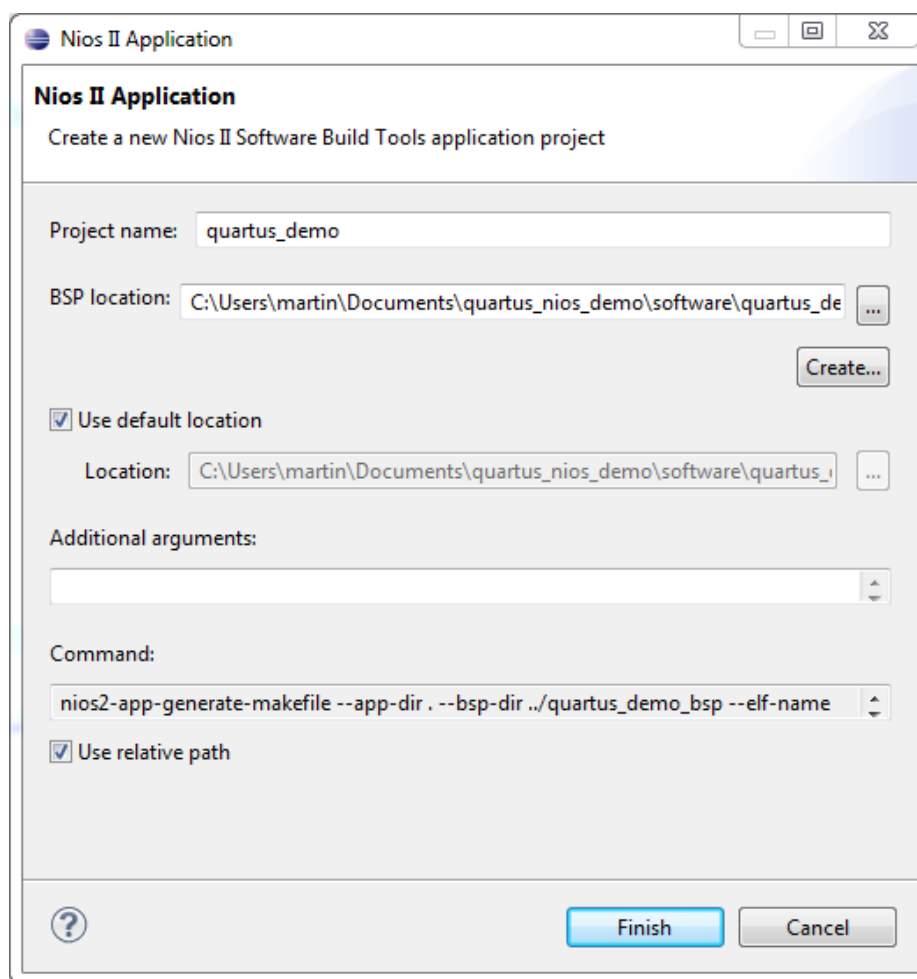

Figure 1.15: the application creation wizard
*Nios II Application wizard* (see figure 1.15). Enter a name for your application project and select the BSP for your project (the BSP that you created in section 1.1.4). Create the project by selecting the *Finish* button. The project appears in the *Project Explorer*.